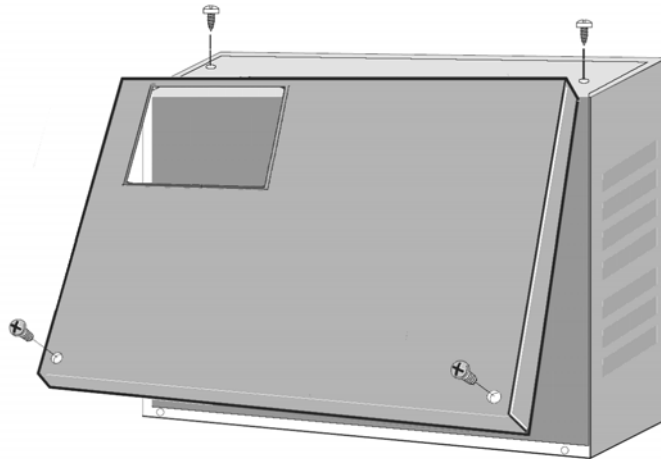

Figure 1 - Lid opening
1. Remove the front lid by unscrewing the 4 screws on the front and on the top (figure 1).